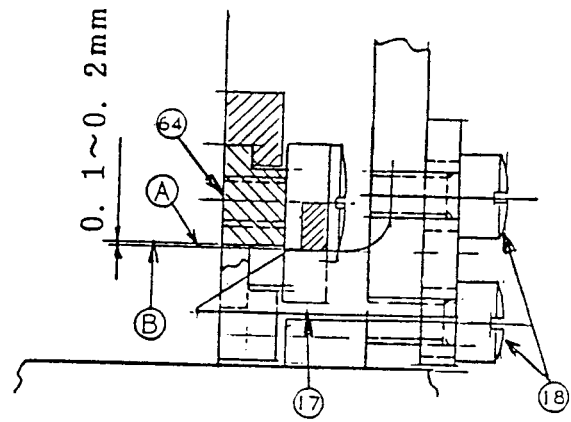

Fig.5
4. To adjust clearance between cutting starting lever plate extension and spreader lever. (Fig.5)